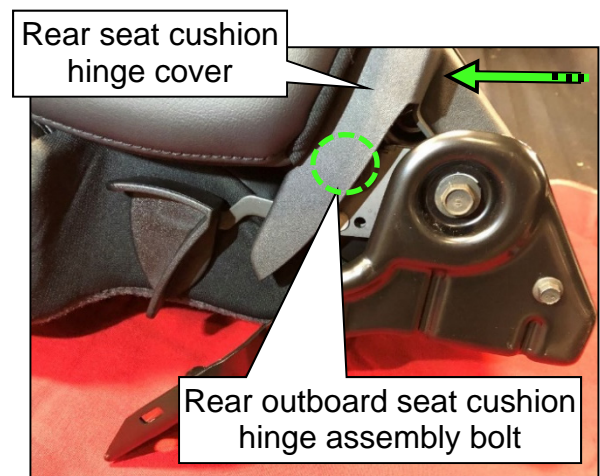

Figure 16
17. Slide the rear seat cushion hinge cover forward to access the rear outboard seat cushion hinge assembly bolt and then torque it to specification (Figure 16).